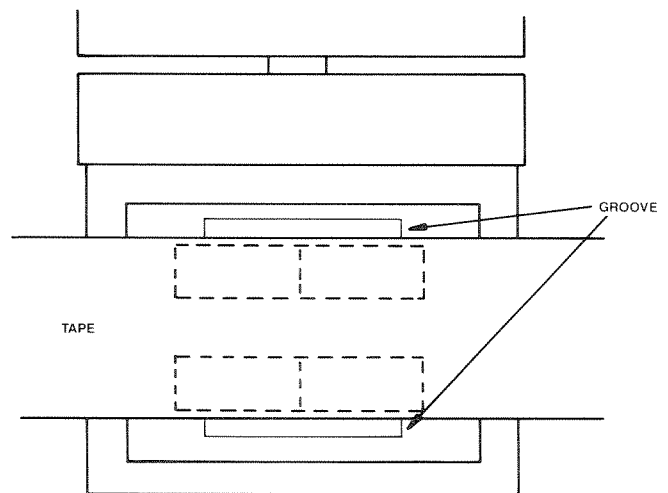
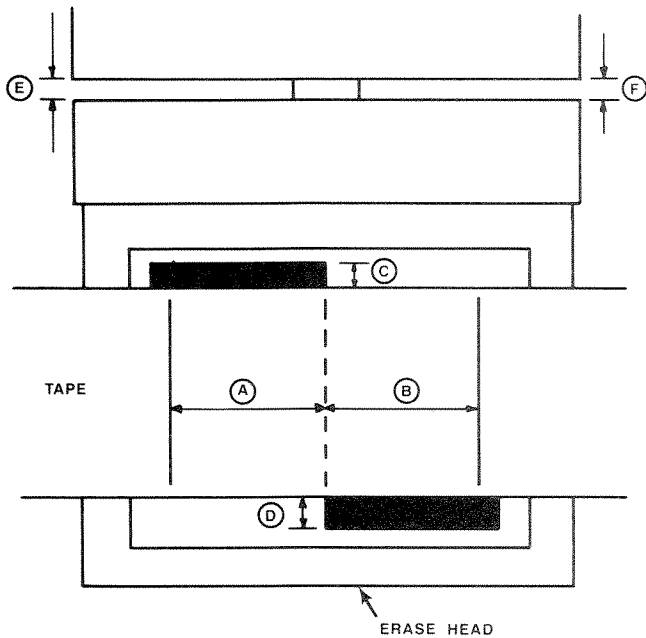

Figure 6-10. Repro or Sync Head Heights
Figure 6-11. Erase Head Adjustments
- STEP 27** Press **PLAY** and observe the head height. The tape must ride between the two grooves machined in the repro or sync head (see Figure 6-10, Repro or Sync Head Height) or equalize the distance © and ② on the erase head (see Figure 6-11, Erase Head Adjustment). If it is not, repeat this procedure until both adjustment specifications have been satisfied.
Observe the tape movement across the heads. The tape should be centered between the two grooves which are machined into the surface of the head when checking the repro or sync head (see Figure 6-10). When adjusting the erase head make sure that the distance © is equal to the distance ② in Figure 6-11. If adjustments are necessary refer to this procedure.